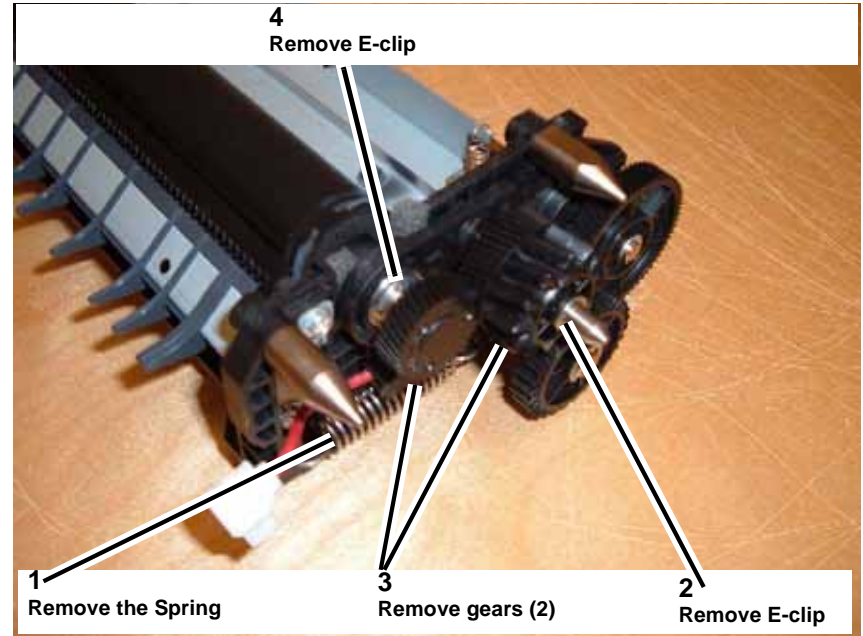

Figure 4 Removing the Gears
5. Remove rear drive Gears (Figure 4).